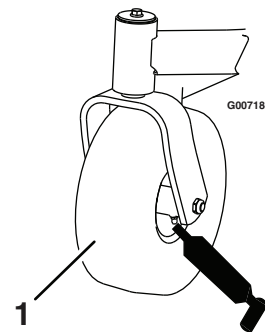
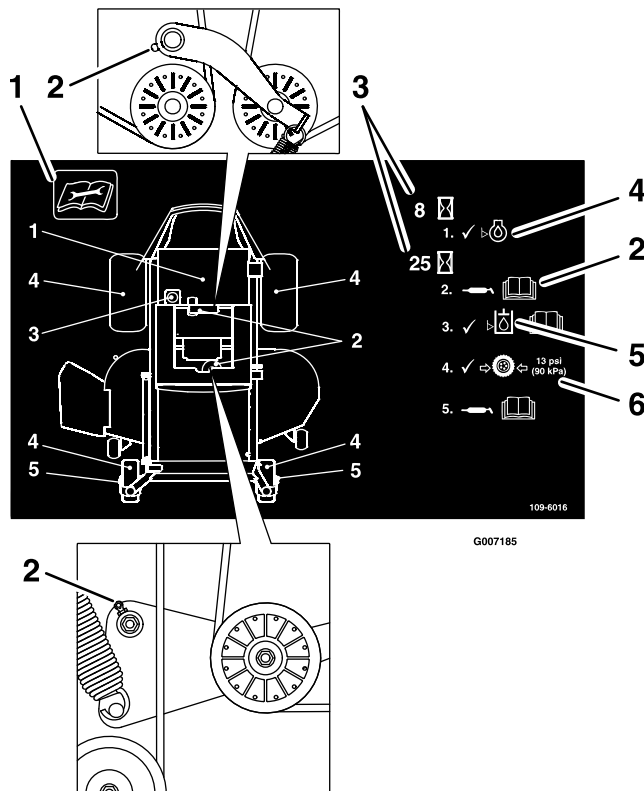

Figure 18
Figure 19
Grease the front caster wheels (Figure 18).
3. Clean the grease fittings (Figure 18 and Figure 19) with a rag. Make sure to scrape any paint off of the front of the fitting(s).
4. Connect a grease gun to each fitting (Figure 18 and Figure 19). Pump grease into the fittings until grease begins to ooze out of the bearings.